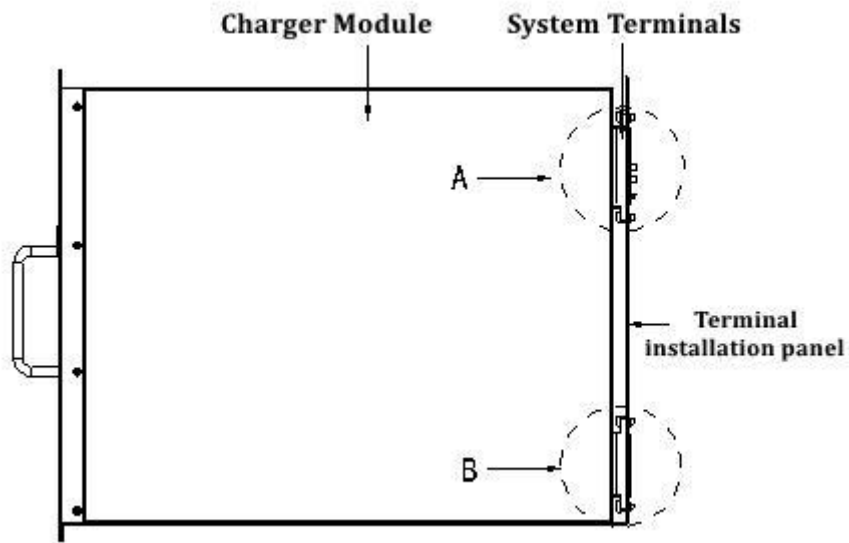
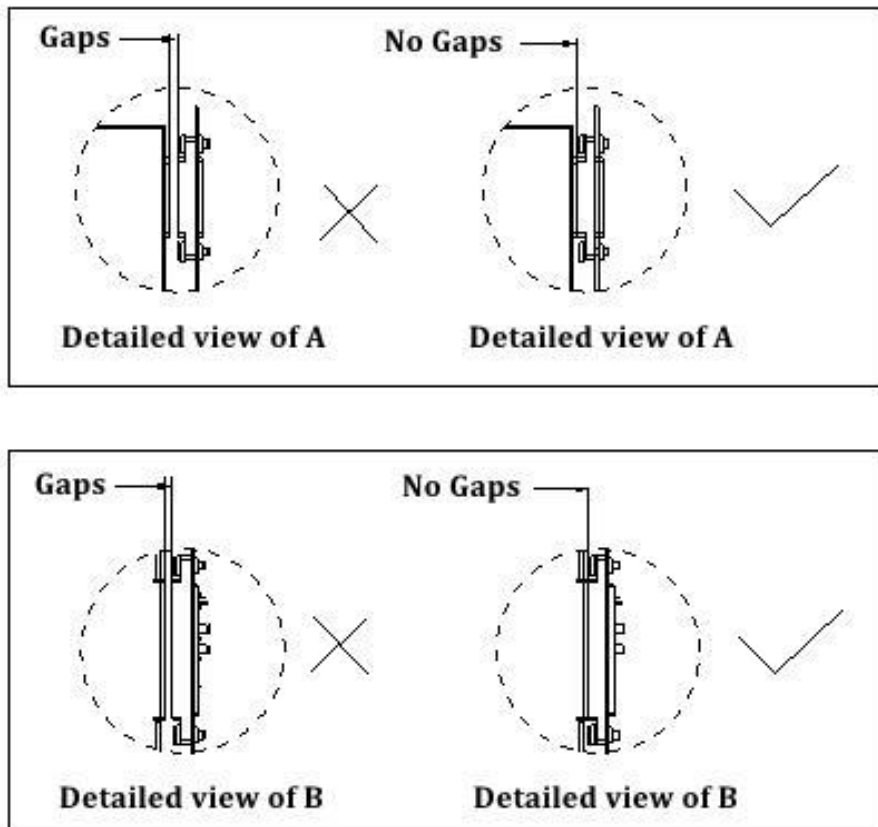

Figure 3-3 System terminal and module terminal insertion diagram
Figure 3-4 Module terminal and system terminal assembly instruction diagram
- After the module is assembled on Charger, the module terminal is required to be in close contact with the system terminal without gaps. Ensure that the system terminals and module terminals are connected reliably, as shown in Figure 3-3 and Figure 3-4.